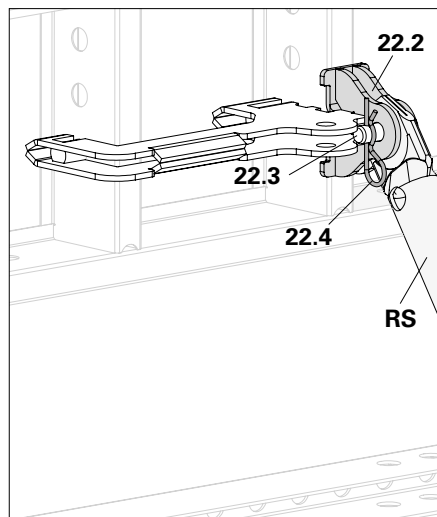
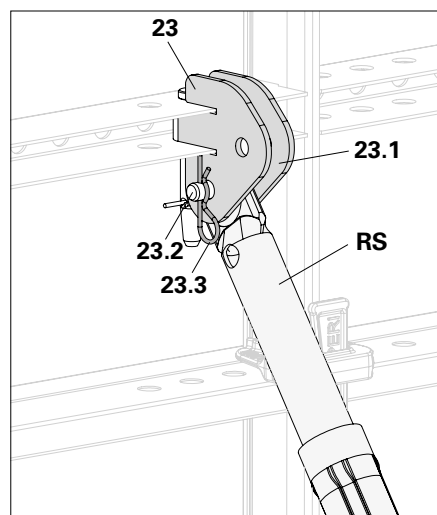

Fig. A6.03b
Fig. A6.04
- Connect Push-Pull Prop (RS) and connection lugs (23.1) with bolts (23.2) and cotter pins (23.3). (Fig. A6.04)
- Vertical assembly with the Brace Connector LIWA-2 (22):
- Connect Push-Pull Prop (RS) and connection lugs (22.2) with bolts (22.3) and cotter pins (22.4). (Fig. A6.03b)